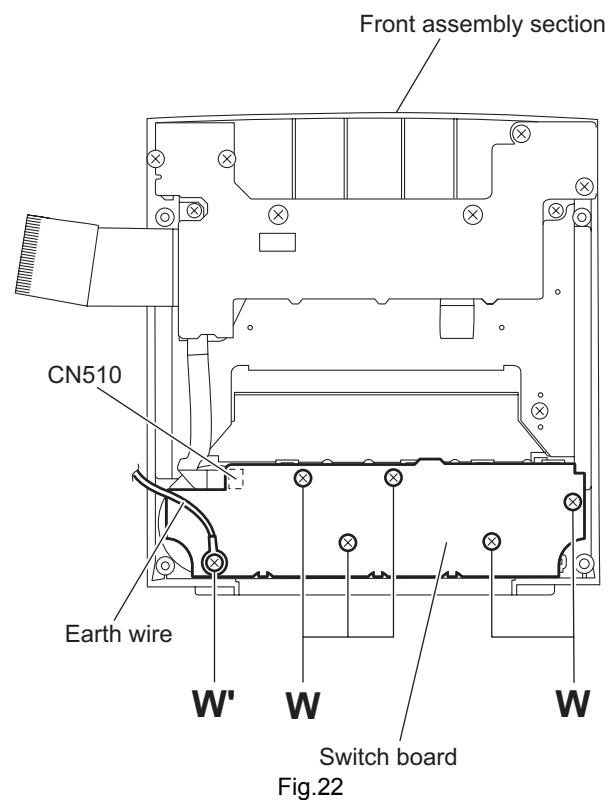

Fig.22
- From the inside of the front assembly section, remove the five screws **W** and screw **W'** attaching the switch board. (See Fig.22.)
- Disconnect the card wire from the connector **CN510** on the switch board. (See Fig.22.)
When attaching the screw **W'**, attach the earth wire with it. (See Fig.22.)
- Take out the switch board from the front assembly section. (See Fig.22.)